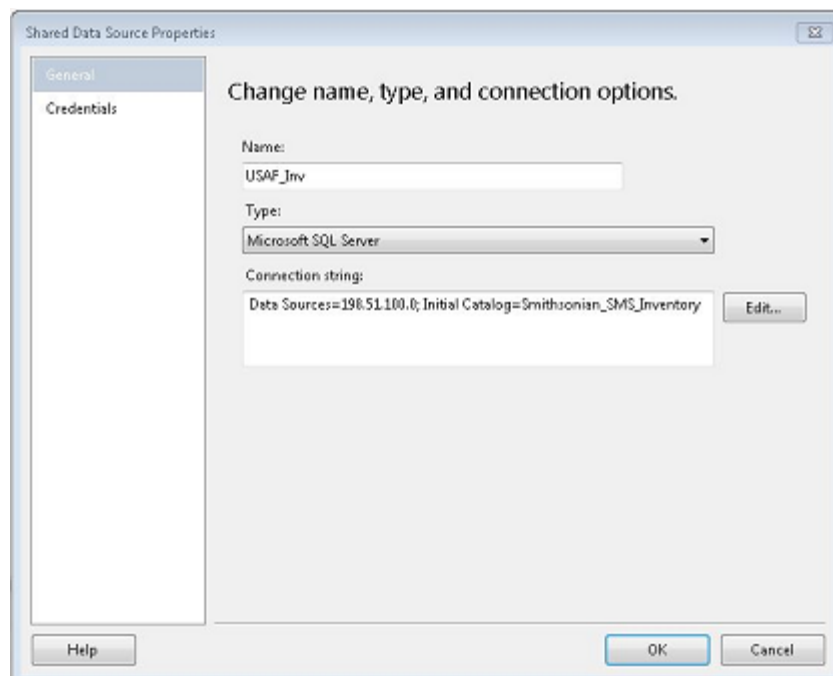

Figure 3. Data Source Creation in SSRS
1. In the report writing tool of your choice, you need to ****create** (**Q create vs. establish vs. specify) a *data source* that will point to the SQL Server BUILDER database. See Figure 3 for an example in SSRS.